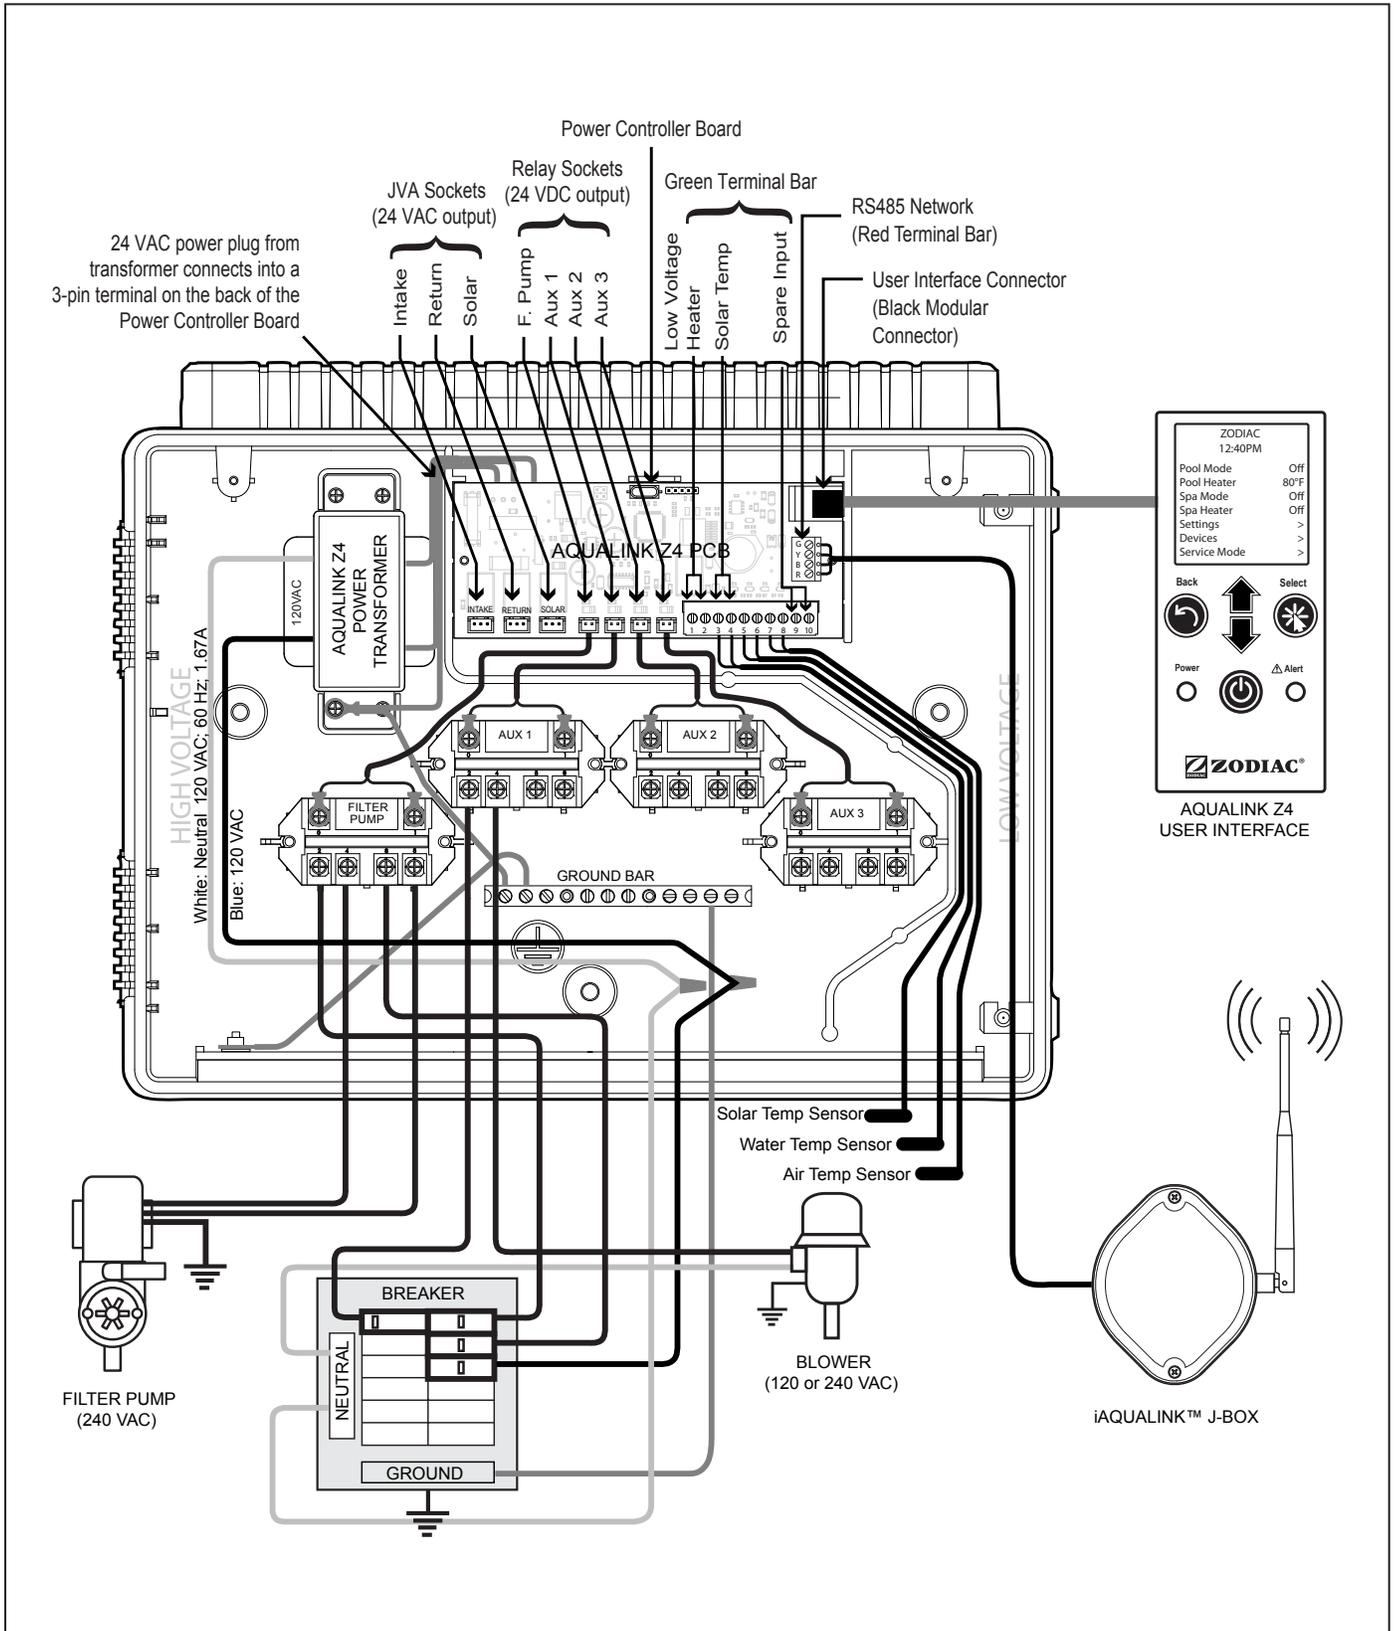

Figure 2. AquaLink Z4 Controller Electrical Wiring Diagram
**NOTE:** See *Figure 2. AquaLink Z4 Electrical Wiring Diagram* for specific wire locations and connections.
Wire the temperature sensors on the 10-pin green connector (see Figure 2. Wiring Diagram). The air temperature sensor is factory-installed on the 10-pin green connector (pins 7,8). The water temperature sensor and necessary installation hardware is included.
If there is additional low voltage equipment installed, such as low voltage heating, wire to pins 1 and 2 on the 10-pin green connector (see Figure 2. Wiring Diagram).
Wire the iAquaLink device on the red RS-485 connector (see Figure 2. Wiring Diagram).
3. Plug JVAs in as shown in Figure 2. Wiring Diagram.